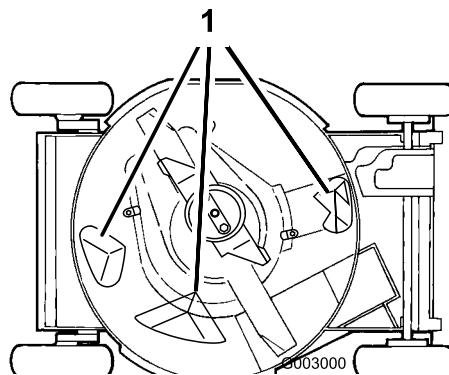

Figure 35
To ensure the best performance, keep the underside of the mower housing clean. Be especially careful to keep the kickers free of debris (Figure 35).
- Remove 2 blade nuts, the accelerator, and the blade (Figure 35).